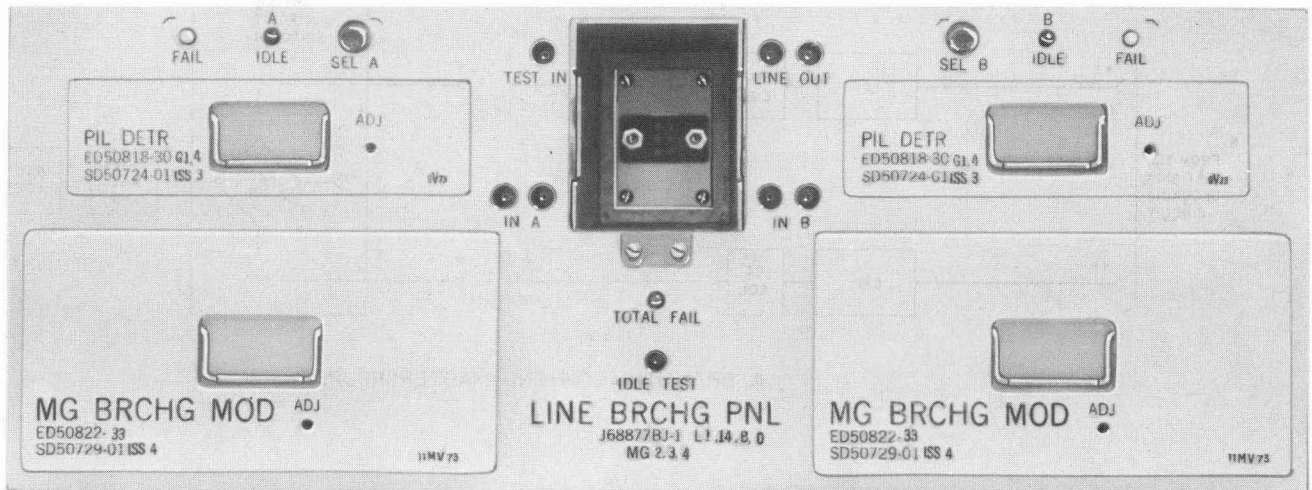
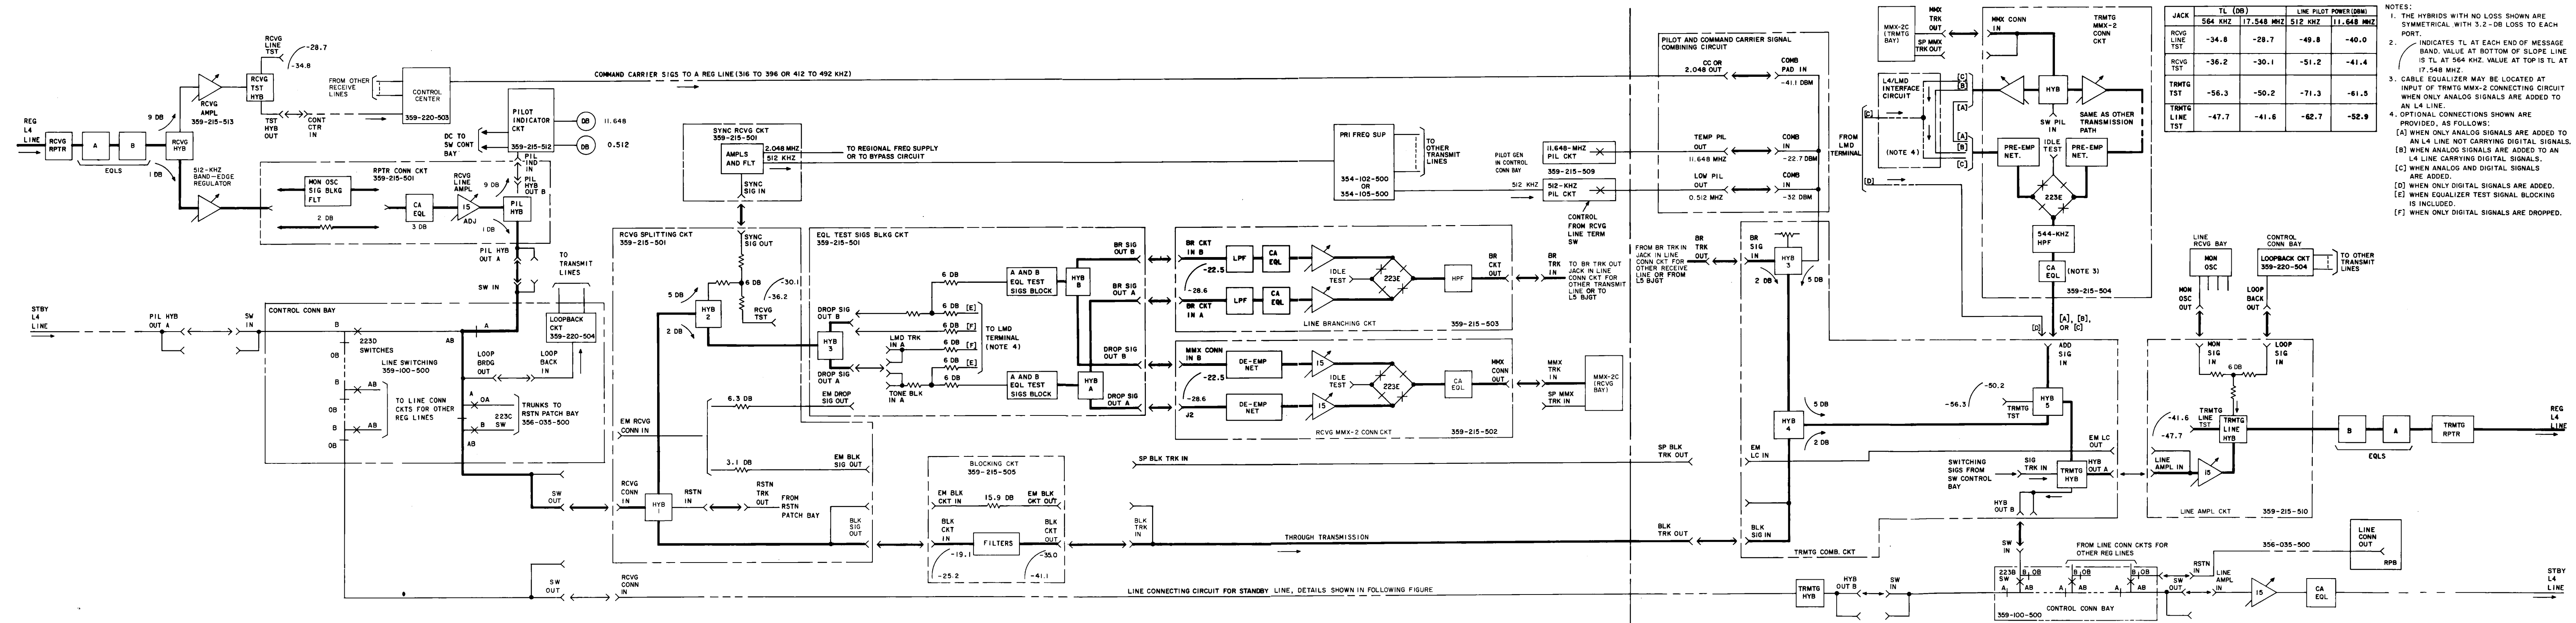
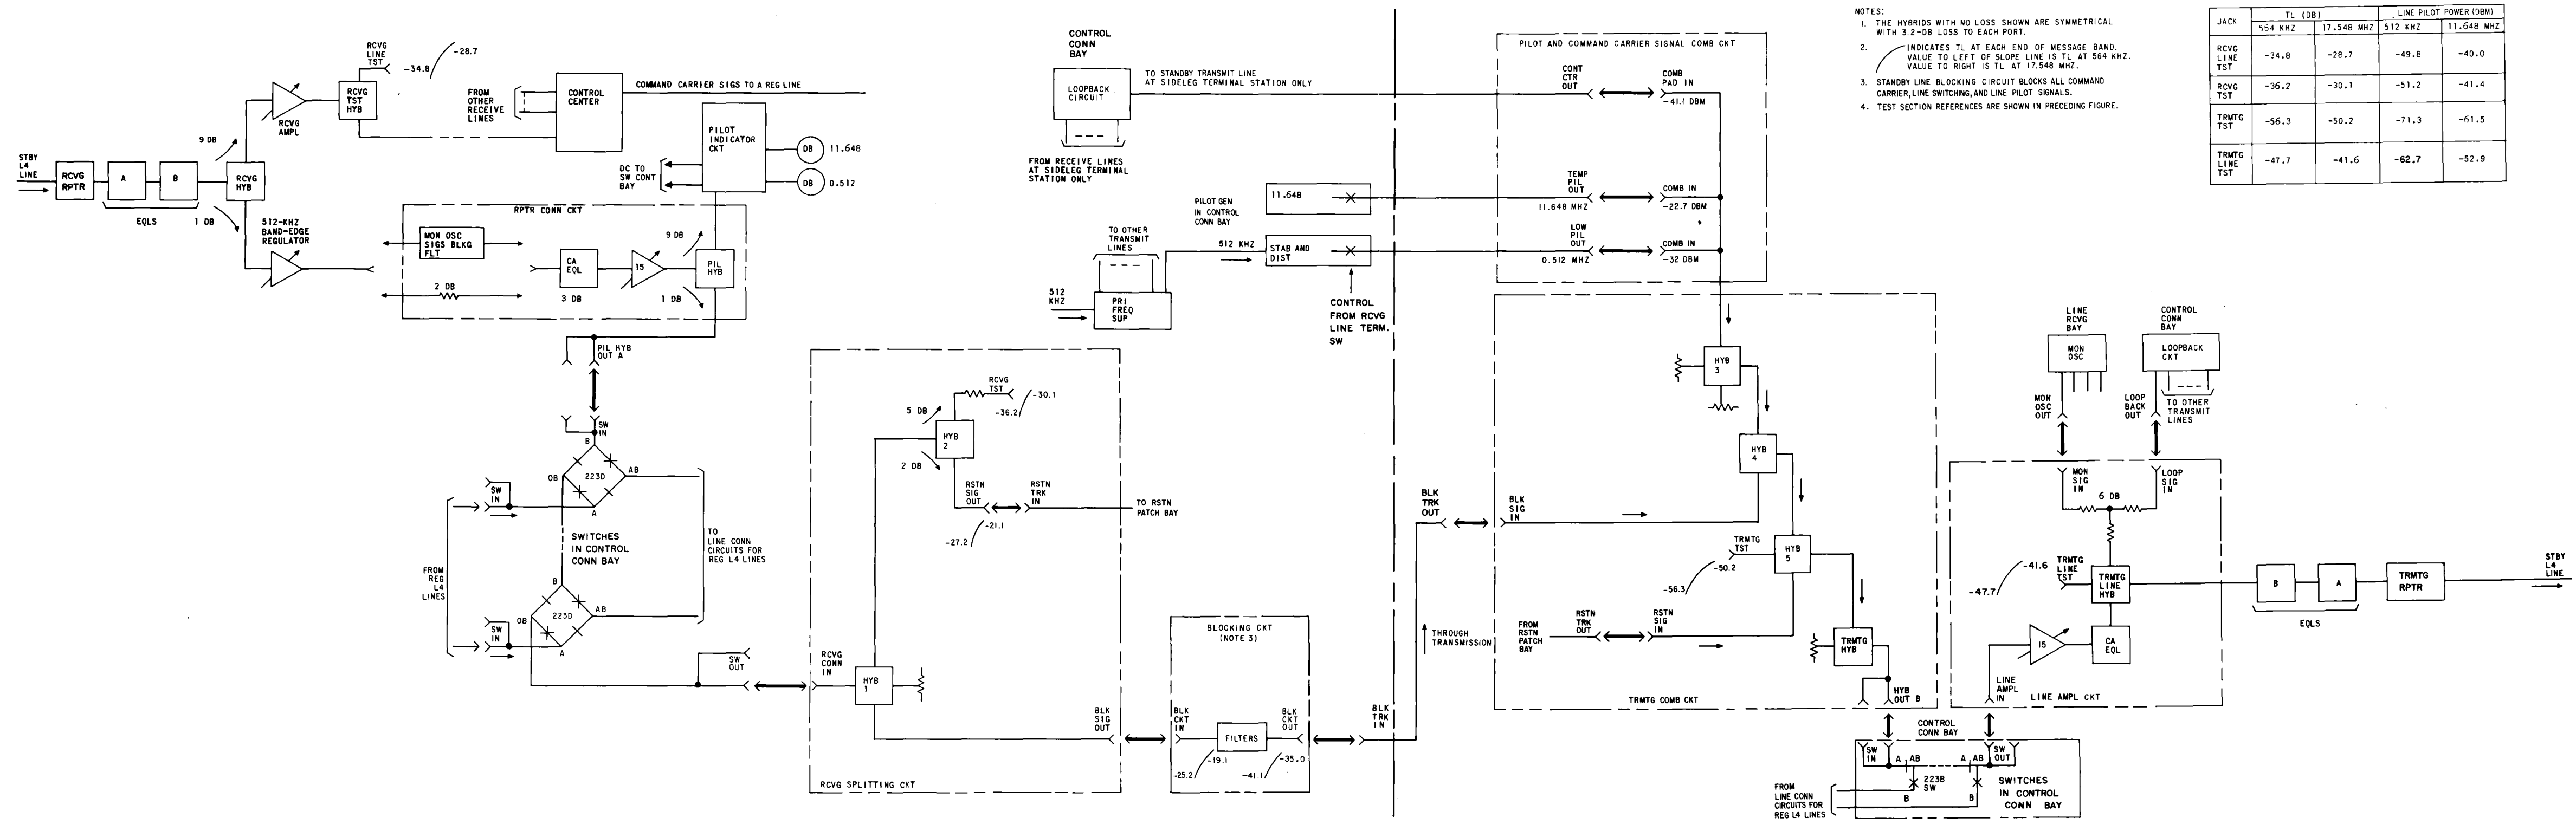

Fig. 15—Line Branching Panel
Fig. 23—Line Connecting Circuit for Regular Line
Fig. 24—Line Connecting Circuit for Standby Line
8.01 A *line branching circuit* (Fig. 23) is required to connect the multiplex signal received on a regular line to an L4 or L5 transmit line different from the one connected via the blocking circuit in the through transmission path. A line branching panel is shown in Fig. 15.
arrangements of this circuit, as shown in Fig. 23, are provided depending on whether this L4 line is carrying digital signals.
10.03 Optional connections are shown in Fig. 23.
12.01 A *pilot and command carrier signal combining circuit* (Figures 23 and 24) is always provided and consists of jacks and fixed and adjustable pads for four inputs to the transmitting combining circuit.
12.03 Command carrier signals from a control center (Fig. 23) appear in the line transmitting bay for the first regular transmit line at the CONT CTR OUT jack. This jack is patched to the adjacent COMB PAD IN jack. For a sideleg route, normally there is no control center at the sideleg *terminal* station. There is a control center at the *junction* main station where the sideleg route joins another route. When equalizing any line *to* the sideleg terminal station, the equalizer test signals must be looped back to the control center located at the sideleg junction station. Equalizer test signals are connected from that receive line at the sideleg terminal station (Fig. 24) via the loopback circuit
Regular Line (Fig. 23)
Standby Line (Fig. 24)
14.01 A **line amplifier circuit** (Figures 23 and 24) is always provided for each line. This circuit amplifies signals to the proper level for connection to the transmitting main station repeater. The amplifier has a gain of 15 dB adjustable ± 2 dB. For a **standby** line, the line amplifier circuit includes a cable equalizer to compensate for gain deviations due to the cable to and from the line switches in the control connecting bay.
15.02 As added transmission protection for a **regular** line, emergency bypassing circuits are provided (Fig. 23). If for any reason transmission is interrupted by failure in the transmitting or receiving hybrids or passive blocking circuit, an emergency bypass circuit may be manually patched around the entire through transmission circuit or the dropping circuit, depending on the location of the trouble. Each bypass circuit has a loss equal to that normally introduced by the circuits which are bypassed.